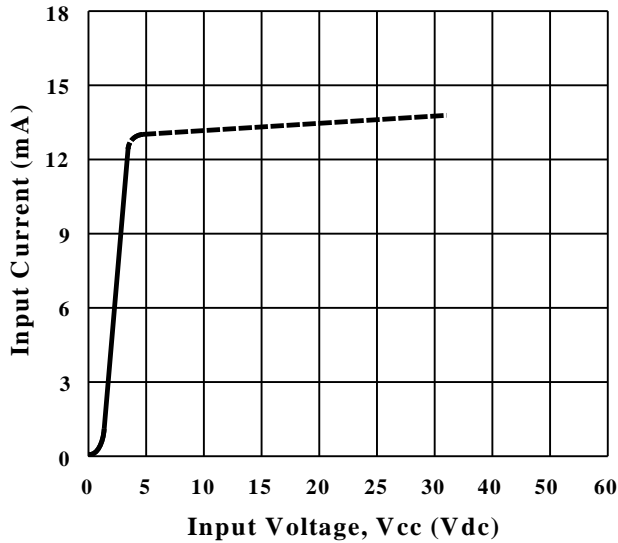

Figure 2
1. 2 terminal input configuration is compatible with CMOS or open collector TTL (with pull-up resistor). For Vcc levels above 6 Vdc, a series limiting resistor is required. See Figure 2 for resistor value. Use standard resistor value equal to or less than value from curve.